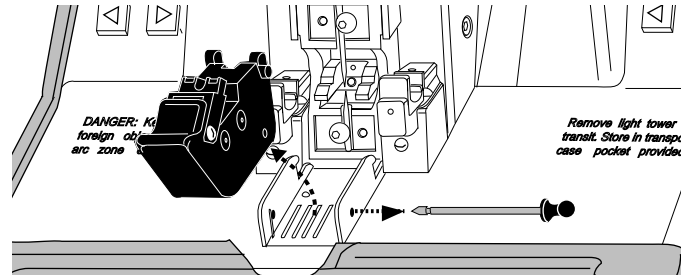

Figure 80
8.9 To avoid possible damage to the fiber clamp during transit, remove the light tower as shown in Figure 80